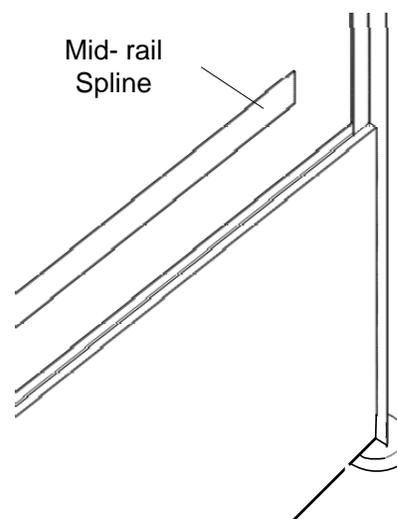

Figure 5
7. Onto Concrete Cap and into flange of first Post, slide Base Panel into position; assure that Panel slot is fully engaged onto flange, and Panel is firmly seated onto Footing Cap (figure 5).
8. Into top slot (facing up) of Base Panel, first with caulking gun add bead of EPS compatible construction adhesive (such as Loclite PL3X) and then insert Mid-Rail Spline; assure that spline is fully seated into slot, and seated onto the adjoining flange of Post (figure 5).